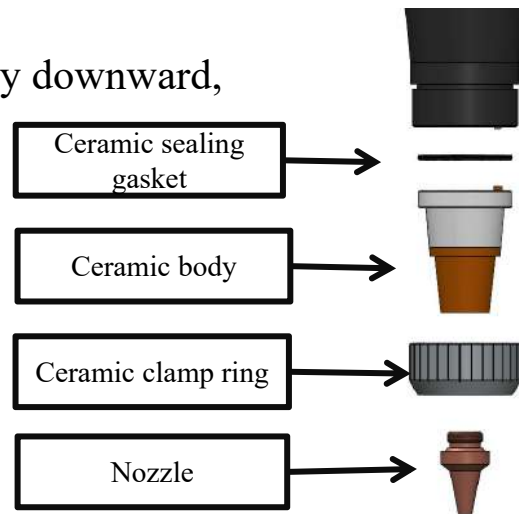

Figure 6.0
- ① Use dry and purified auxiliary gas for cutting. When the gas contains impurities such as water or oil, the working gap may undergo sudden changes, and may even cause sensor malfunction. It is recommended to use high-purity oxygen, and to also equip gas dryers, oil-water separators, etc.
- ② Clean the contaminated sensor. Use a clean, dry cotton cloth or similar material for cleaning. Do not use liquids to clean the cutting head or ceramic body. After cleaning, ensure proper connection and assembly.
- ③ The ceramic body can be replaced if damaged. After replacement, initialize the electrical system through a reset operation using an amplifier.
- ④ The shape and size of the cutting nozzle directly affect the characteristics of sensor. Therefore, it is necessary to use the specified cutting nozzle.
- ① Remove the nozzle counterclockwise, as shown in Figure 6.0.
- ② Remove the ceramic clamp ring counterclockwise, as shown in Figure 6.0.
- ③ Remove the ceramic body vertically downward, as shown in Figure 6.0.